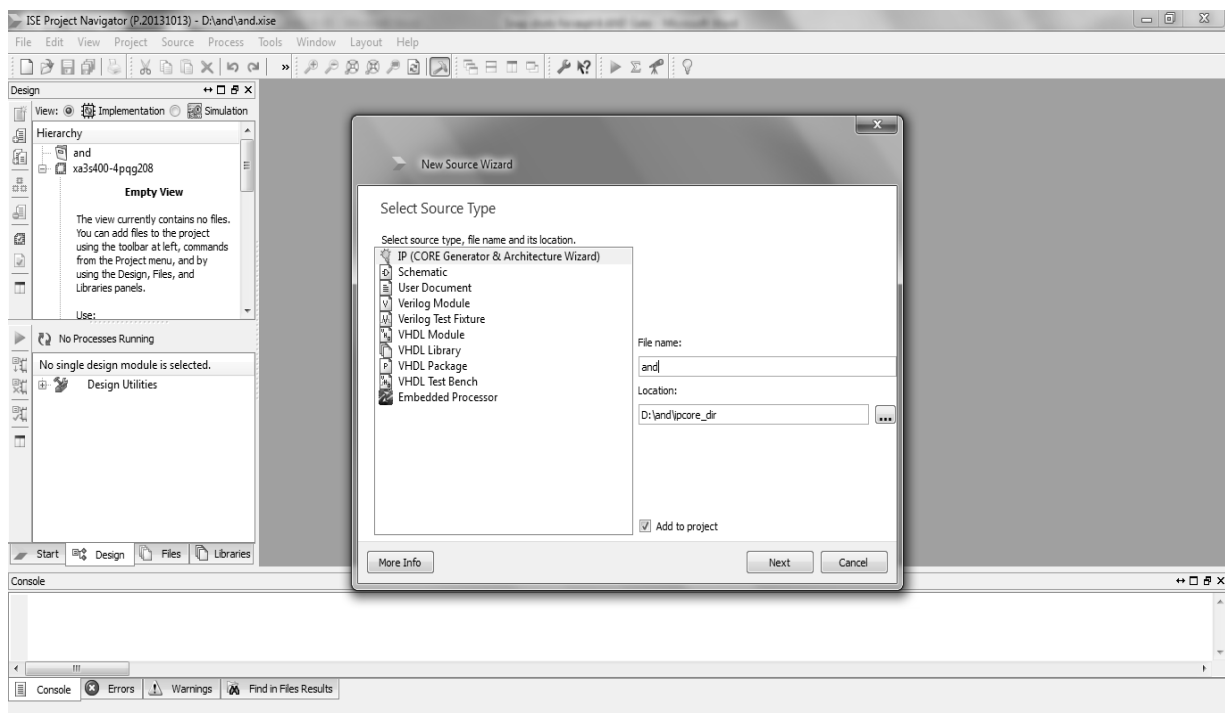

Fig 4.5: Selecting Source Type
Select HDL or Schematic as the Top-level source type, and click Next. (fig. 4.5)
2. Create New Source file. Select Source Type” select the Source type and give the name to the source then click “Next”. (refer fig.. 4.5)